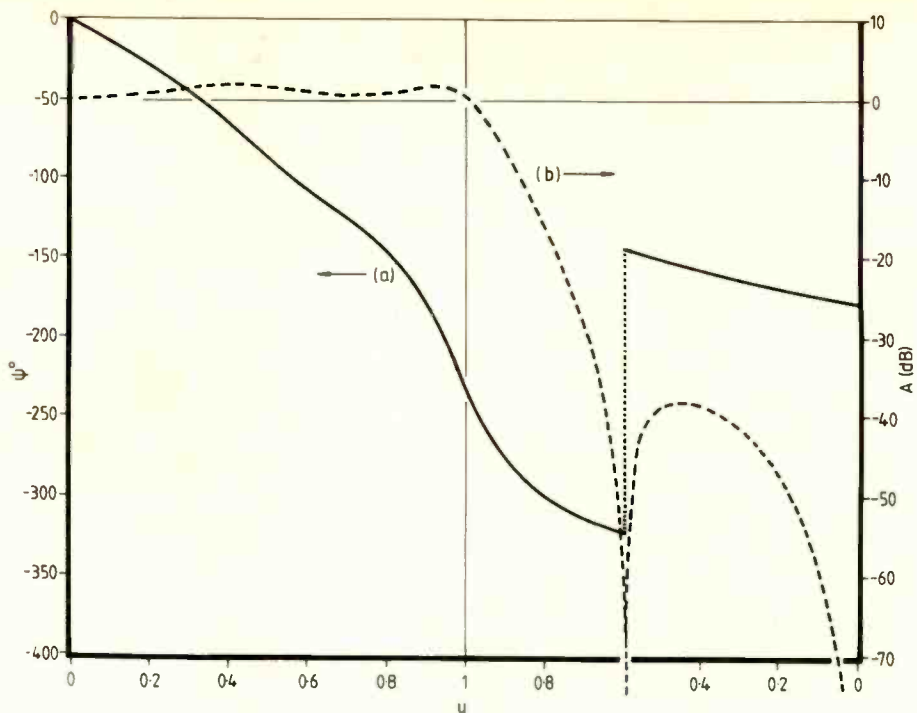

Fig.8. Amplitude (b) derived from phase (a).
**Example 4.** The phase plot for this example is given at (a) in Fig.8 and the analytic solution for the amplitude is the full line (b). The plots are those of a fourth-order, elliptic, low pass-filter with a pass-band ripple of 1.25dB and a stop-band attenuation of about 38dB.